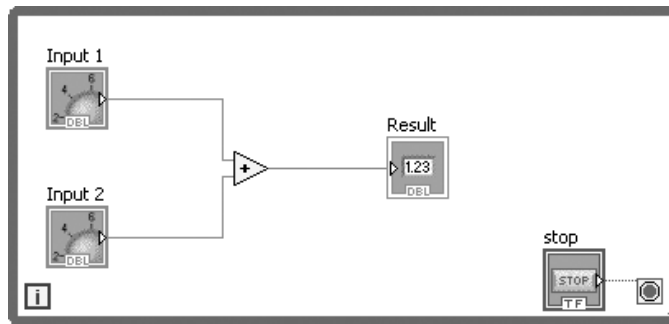

Figure 3.1
The basic structure of several of the VIs in this chapter is shown in Figure 3.1, and will include the following elements inside of an overall While Loop:
- one or more math functions (the *Add function* is used as an example in Figure 3.1)